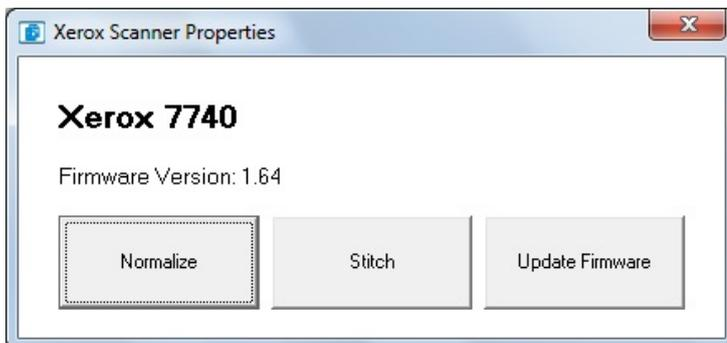

Fig 3-19
1. In the Settings window, click [Properties] to access Xerox Scanner Properties (Fig 3-19).